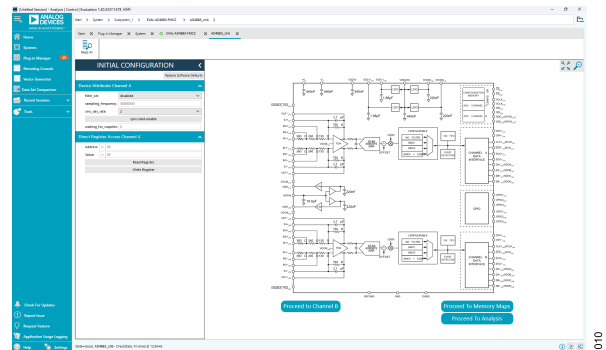

Figure 10. AD4883 Channel A Tab in the ACE Software
- Two buttons in the lower-right corner (**Proceed to Memory Maps** and **Proceed to Analysis**), which are shown in Figure 10.